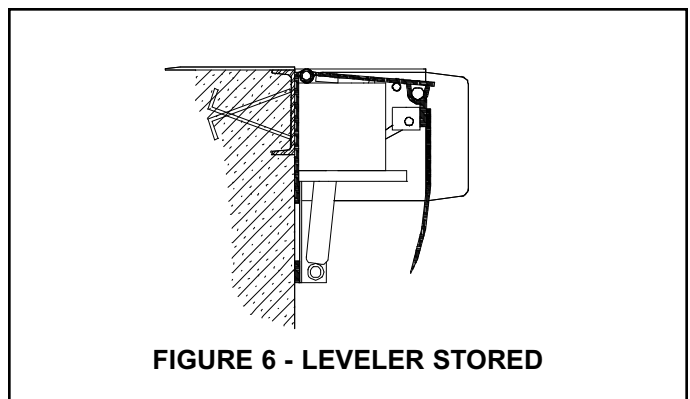

FIGURE 6 - LEVELER STORED
2. Push and hold the "DOWN" button to lower the unit to the stored position. See figure 6.